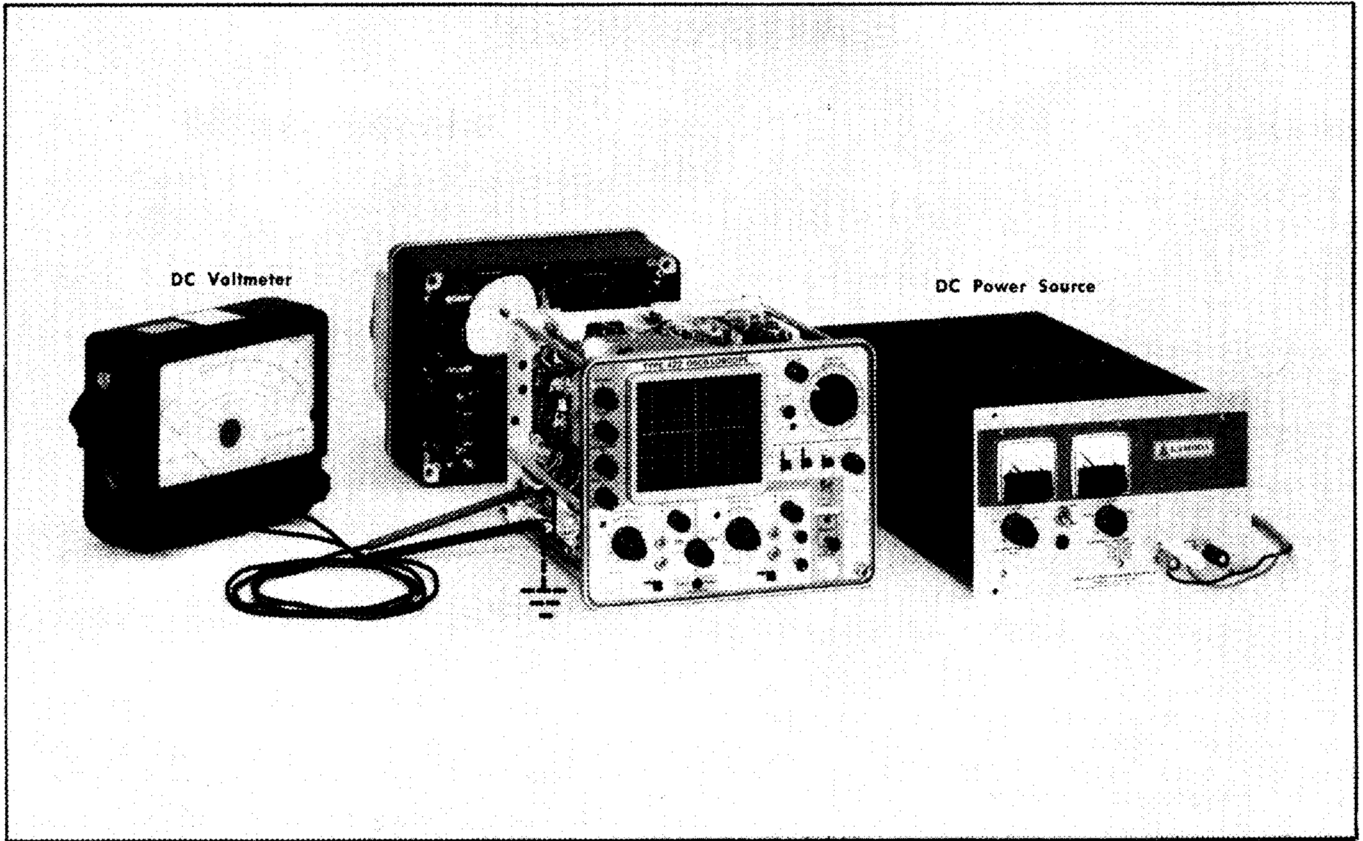

Fig. 6-1. Test equipment setup for —12-volts supply adjustment
The following equipment is required for complete calibration of the Type 422 AC-DC Power Supply (Fig. 6-1 in the Type 422 Indicator Manual shows items 1 through 4).
- Test equipment setup is shown in Fig. 6-1.
- a. Test equipment setup is shown in Fig. 6-1.